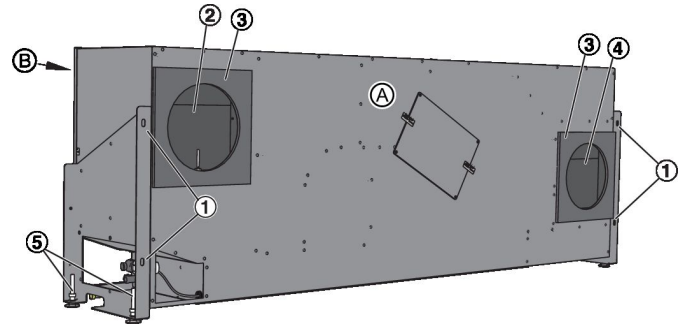

Fig. 9: Installation
1. ▶ Place the unit in such a way that the wall side (Fig. 9/A) faces the wall. The openings for the air (Fig. 9/2 and Fig. 9/4) must be aligned with the prepared openings in the external wall; adjust the feet if necessary.
2. ▶ Use suitable screws (Ø 6 mm) for the provided fixing holes (Fig. 9/1) to fix the unit to the external wall.
3. ▶ Adjust the feet (Fig. 9/5), then tighten the nuts.
5. ▶ Protect the ventilation unit with the optional outer casing or with an outer casing provided by others. Screw-fix the two fixing brackets (Fig. 9/6) to the outer casing.